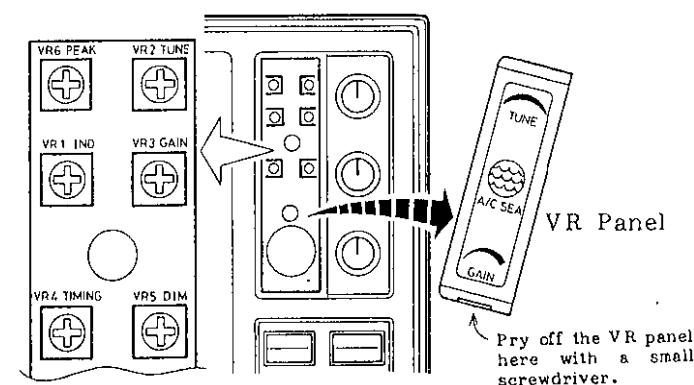

Fig.6-10 Location of Preset Potentiometers
1. Press the **POWER/OFF** touchpad on the display unit, and the control panel will light up. In approximately 1 minute and 30 seconds, the message "ST-BY" will appear at lower center of the screen. While this warmup is in process, pry off the VR panel on the front panel of the display unit. See Fig.6-10. This will expose the preset adjustments. Push in the front panel **TUNE** control and release the control to bring it out. Set the control to 12 o'clock, the **GAIN** control at 2 o'clock, and the **A/C SEA** control at fully counterclockwise.
3. Bring up the **GAIN** control until a small amount of noise appears on the screen. At this point, unless the tuning just happens to be at the optimum point, *slowly* adjust the coarse **TUNE** control accessible through the VR panel, watching the screen for radar targets. (See Fig.6-10.) You must patiently adjust this coarse-tuning control in very small increments, allowing the sweep to go around completely in order to observe the effect of a single small change in its setting. When you are finished optimizing the coarse tuning control behind the VR panel, verify that the fine **TUNE** control on the front panel peaks up for maximum radar echoes at 12 o'clock, or at least close to that point.
2. Set VR3 at the position where a little background noise appears on the screen. See Fig.6-10 for the location of VR3.
2. Turn potentiometer VR2 ("TUNE", Fig.6-10) located behind the VR panel of the display unit, fully CW and then slowly turn it CCW until the maximum number of tuning bars are lit.
3. Adjust potentiometer VR6 ("PEAK", Fig.6-10) for the maximum number of tuning bars.
4. If all the tuning bars light up, turn potentiometer VR1 ("IND", Fig.6-10) CCW so about four bars light up. Then adjust VR6 ("PEAK") as in step 3.
The illumination of the touchpad panel can be adjusted to suit your needs, by adjusting the "DIM" potentiometer (VR5) located behind the VR panel of the display unit. See Fig.6-10 for the location of VR5.